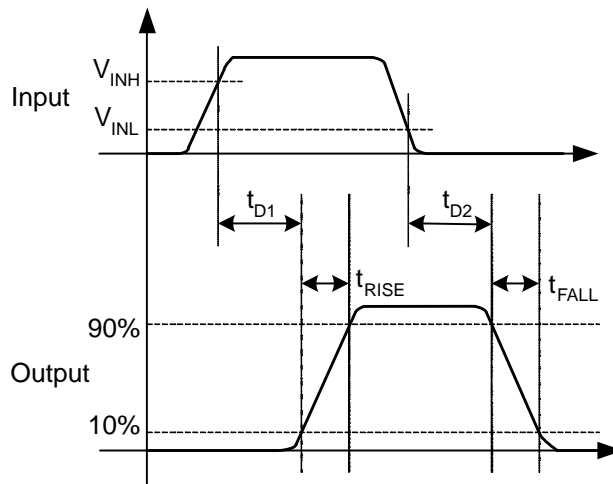
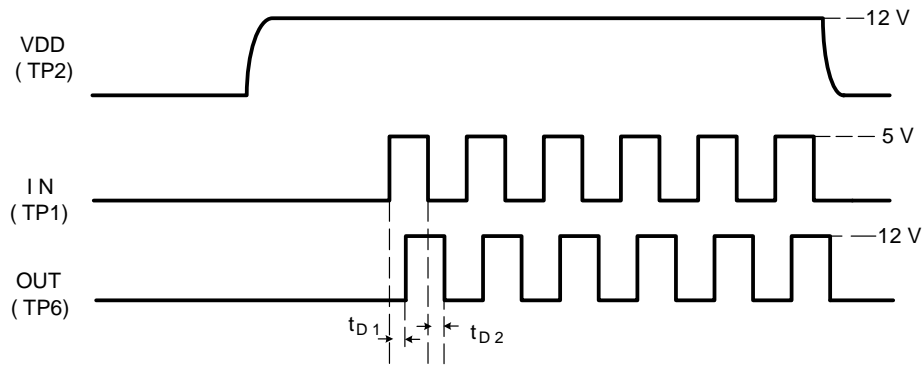

Figure 4. Switching Waveform Definitions
Figure 5. Timing Charts
2. The definition for switching waveform timing chart are described in the Figure 4 and Figure 5.